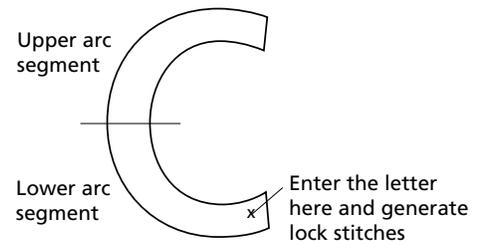

Figure 3-20
1. Ensure the lock stitches were generated at the end of the letter l; and then perform the needle up, Mk1, normal stitch, Mk1 sequence to get to the bottom right area of the letter c (see Figure 3-20).